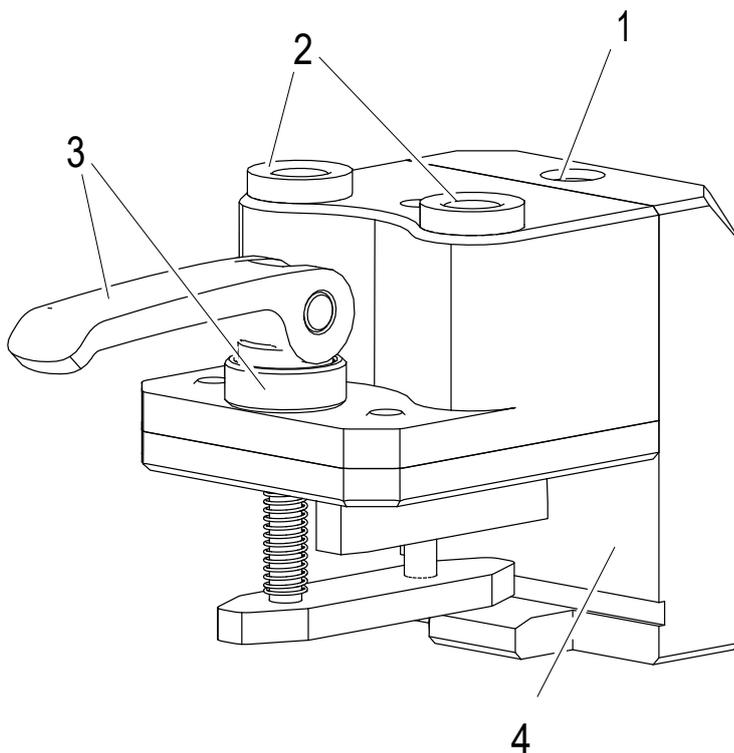
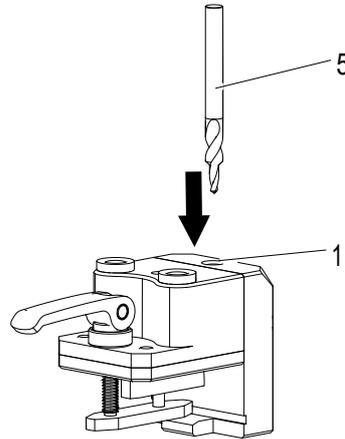

Fig. 100: Drilling jig 0515 overview
Fig. 101: Step drill M3 90°
- Align the drilling jig (2) with the data rail (1). (see Fig. 100 and Fig. 101)